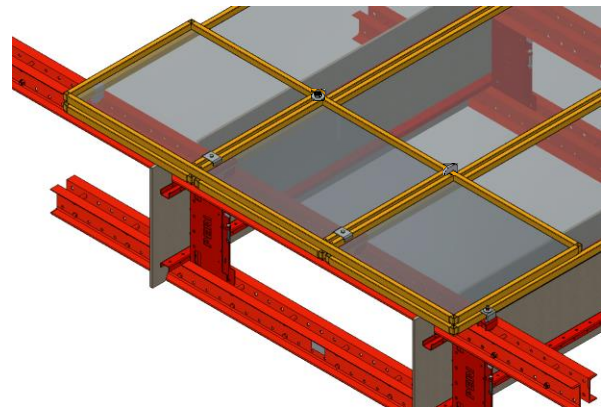

Fig. 9: Attach telescope element
5. Attach telescopic element (5). (Fig. 9)